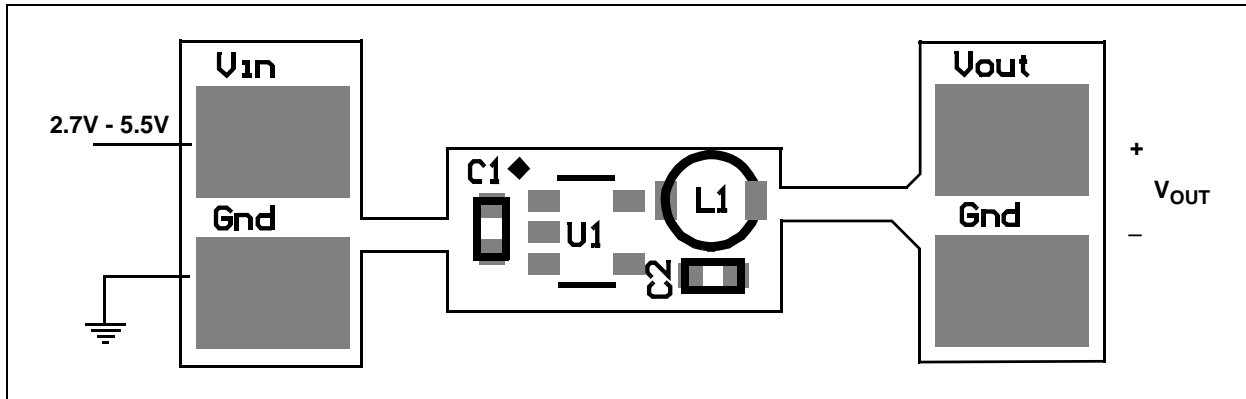
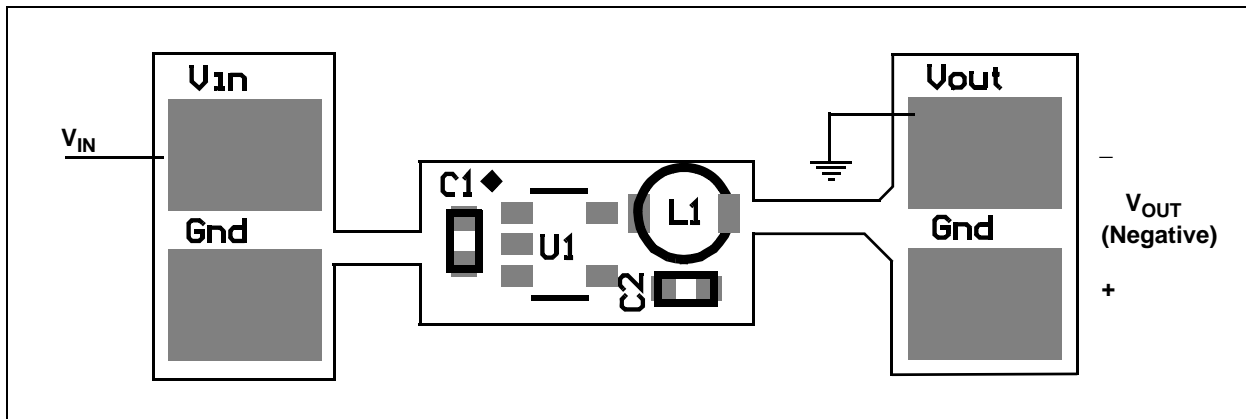

FIGURE 2-1: Positive Output Voltage Setup Configuration Diagram.
FIGURE 2-2: Negative Output Voltage Setup Configuration Diagram.
2. Connect the negative or return side (-) of input source to GND. Refer to Figure 2-1. The input voltage must be within the range of 2.7V to 5.5V.
2. Connect the negative or return side (-) of input source to V_{OUT} . Refer to Figure 2-2. In this configuration the output voltage will appear between the V_{OUT} terminal and GND terminal of the board.
2. Connect the negative side of the load (-) to GND. Refer to Figure 2-1 and Figure 2-2. The maximum load current should not exceed 500 mA.